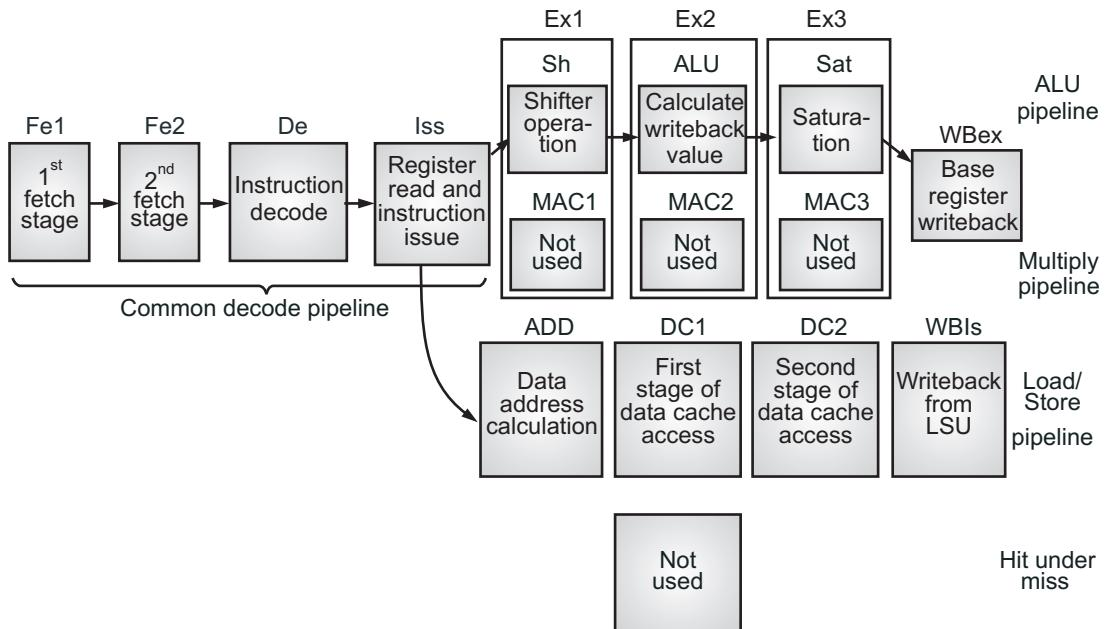

Fig. 2.12: Pipeline flow for load/store operation
- Below Fig. 2.12 shows pipeline flow for Load/Store operation.